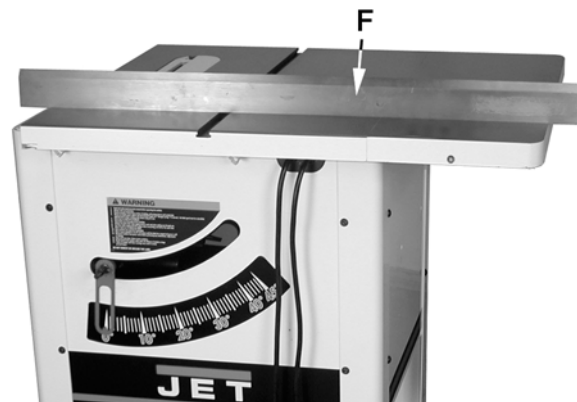

Figure 2
1. Attach *right extension wing* (A) to the *table* (B) with three each *hex cap screws* (C), *lock washers* (D) and *flat washers* (E). Snug but do not tighten.
3. Using a straight edge (F, Fig. 2), align the extension wings to the saw table and tighten the hex cap screws.